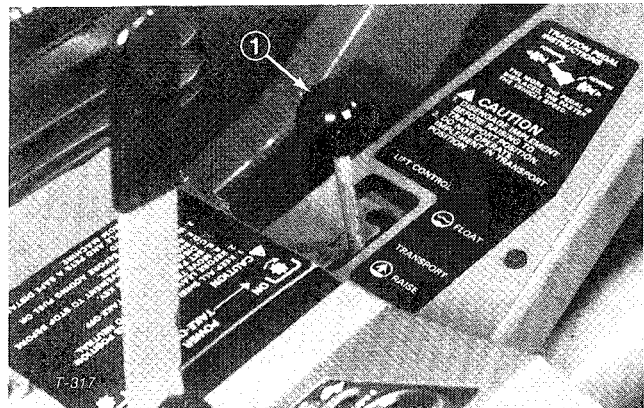
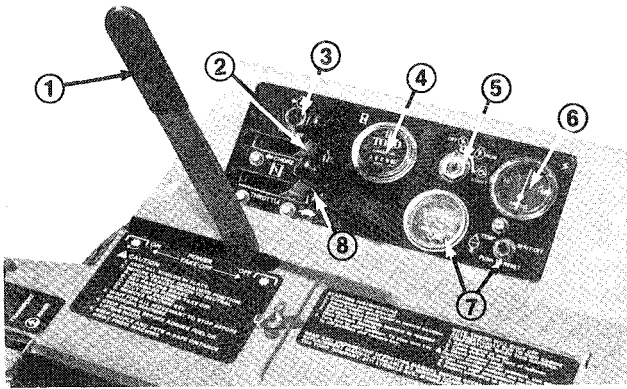

Figure 19
Figure 20
**Lift Lever (Fig 19)** — The hydraulic lift lever has three positions; FLOAT, TRANSPORT and RAISE. To lower implement to the ground, move lift lever forward into notch, which is the FLOAT position. The FLOAT position is used for operation and also when machine is not in operation. To raise implement, pull lift lever backward to the RAISE position. After implement is raised, allow lift lever to move to the TRANSPORT position. Normally, implement should be raised when driving from one work area to another, except when descending steep slopes.
**PTO Lever (Fig. 20)** — The PTO lever has two positions; ON, engage and OFF, disengage. Slowly push PTO lever fully forward to ON position to start the implement or cutting unit blades. Slowly, pull lever backward to OFF position to stop implement operation. The only time PTO lever should be in the ON position is when implement or cutting unit is down in operating position.
**Oil Pressure Warning Light (Fig. 20)** — The oil pressure warning light will glow and a buzzer will sound when oil pressure in engine drops below a safe level. If low oil pressure ever occurs, stop engine and determine the cause. Repair the damage before starting the engine again.
**Hour Meter (Fig. 20)** — The hour meter registers accumulated hours of engine operation. Use the hour meter to determine intervals for service maintenance and lubrication.
**Ammeter (Fig. 20)** — Ammeter shows charge rate of the battery by the alternator. When engine is running, there usually is a slight charge, unless engine is idling slowly. Needle will point to 0 when battery is fully charged. By contrast, alternator is not charging the battery when needle points to (-) negative side of ammeter, and if this happens, repair the charging system to prevent discharge of the battery.
**Temperature Switch/Gauge and Reset Button (Fig. 20)** — The temperature switch/gauge registers the temperature of the coolant in the cooling system. If temperature of coolant gets too high the engine will shut off automatically. When this happens, rotate ignition key to OFF. Automatic shut-off of the engine usually results from debris on front of screen or radiator, which reduces air flow. After cleaning outside of screen and radiator or repairing some other damage, press the reset button and start the engine.
**Ignition Switch (Fig. 20)** — The ignition switch, which is used to start and stop the engine, has three positions; OFF, RUN and START. Rotate
**Choke (Fig. 20)** — To start a cold engine, close carburetor choke by moving choke control fully forward. After engine starts, regulate choke to keep engine running smoothly. As soon as possible, open the choke by pulling it backward.
**Throttle (Fig. 20)** — Throttle is used to operate engine at various speeds. Moving throttle forward increases engine speed — FAST; backward decreases engine speed — SLOW. The throttle regulates the speed of the cutter blades or other implement components and, in conjunction with traction pedal, controls ground speed of the traction unit.
1. Insure parking brake is set, PTO lever is in OFF position (Fig. 20) and lift lever is in TRANSPORT or FLOAT position (Fig. 19). Remove foot from traction pedal and assure it is in neutral.
2. Move throttle control (Fig. 20) to SLOW position.
3. To start engine, move choke lever (Fig. 20) fully forward.
4. Insert key into ignition switch (Fig. 20) and rotate it clockwise to START position. Release key immediately when engine starts and regulate choke to keep engine running smoothly.